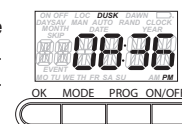

Fig. 6
12. Press OK to skip Dusk Time, otherwise turn the knob to adjust the Dusk Time, (Fig. 6) and press OK. Display shows MAN, and Time of Day.